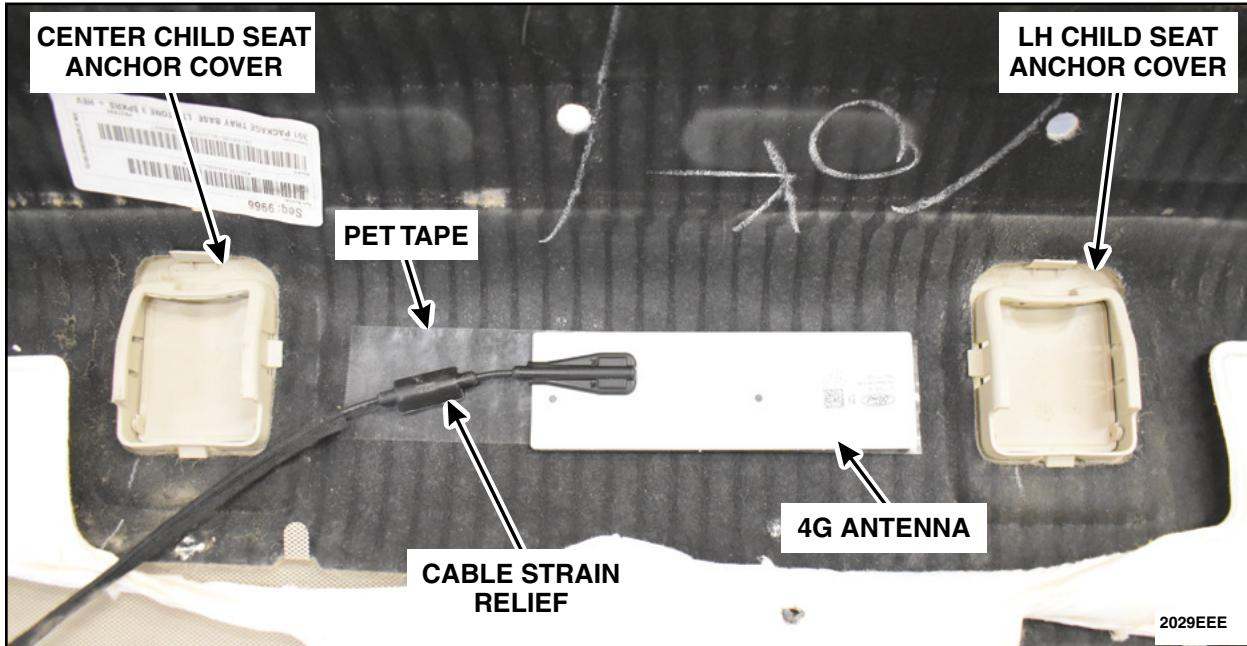

FIGURE 10
11. Install the new 4G antenna. See Figure 10.